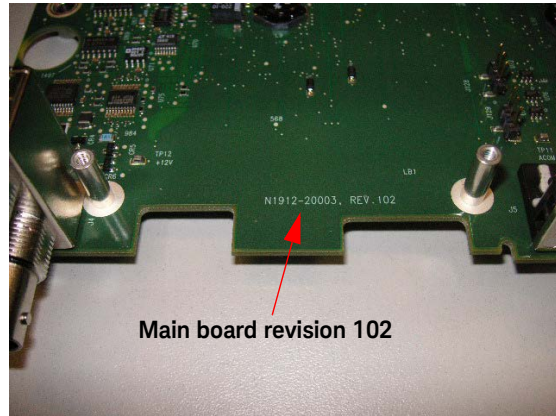
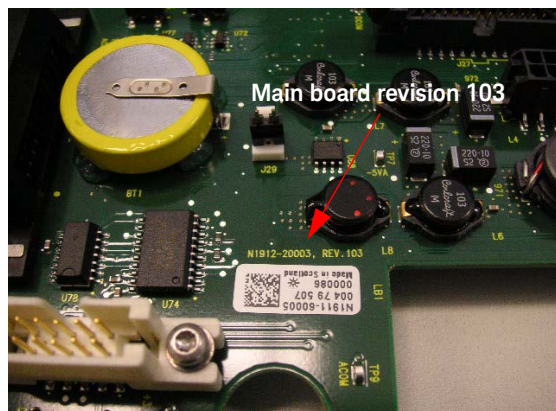

Figure 5-21
Figure 5-22
- **Figure 5-21** and **Figure 5-22** show where to find the main board revision markings